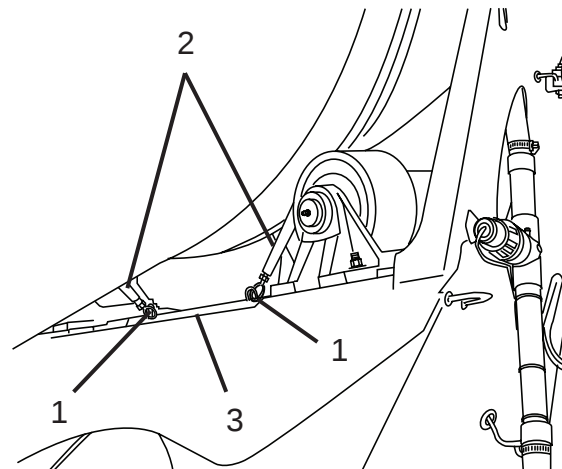

Figure 11
1. Loosen the turnbuckle jam nuts (Figure 11, Item 1).
2. Rotate the turnbuckles (Figure 11, Item 2) to retract the wedges from the drum roller track and rollers.
3. Remove the dual turnbuckle wedge assembly (Figure 11, Item 3) and any blocking from the rear pedestal.